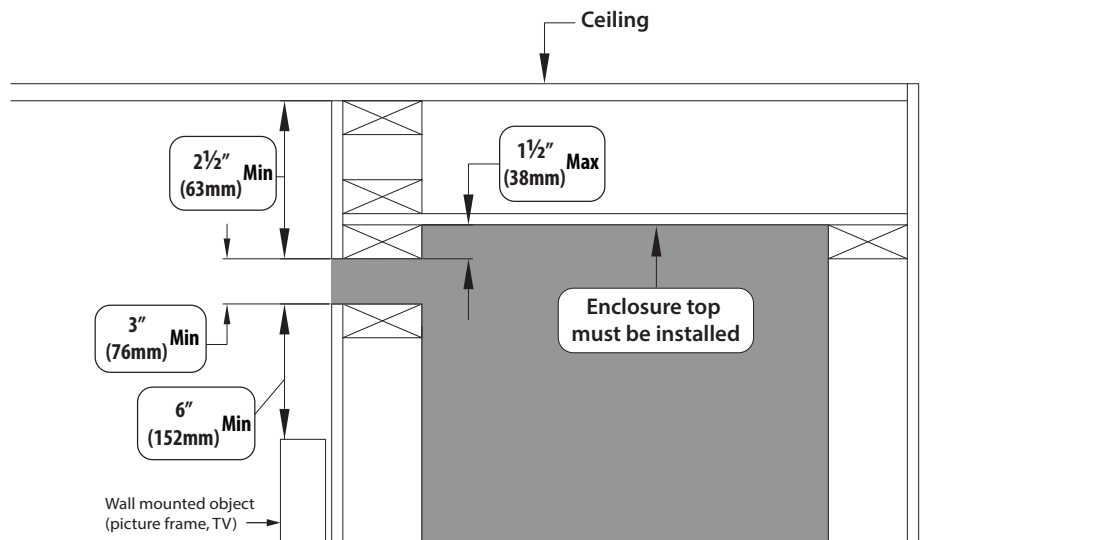

Figure 3.17, Front Vented Cavity Alternative Installation
- Figure 3.17 shows an alternative installation method where you cap off the fireplace cavity so the air discharge opening can be located further down the fireplace chamber. 1-1/2" (38mm) is the maximum drop for framing the air discharge opening to the fireplace enclosure top. This avoids trapping heat in the upper areas of the vented cavity enclosure. Framing the outlet any lower than 1-1/2" (38mm) will cause over heating create a fire hazard. If you cap the fireplace cavity off, it cannot have any vent pipe running through the top with a ceiling firestop. This installation method can alleviate any possible concerns with paint discoloration from heat or dust.